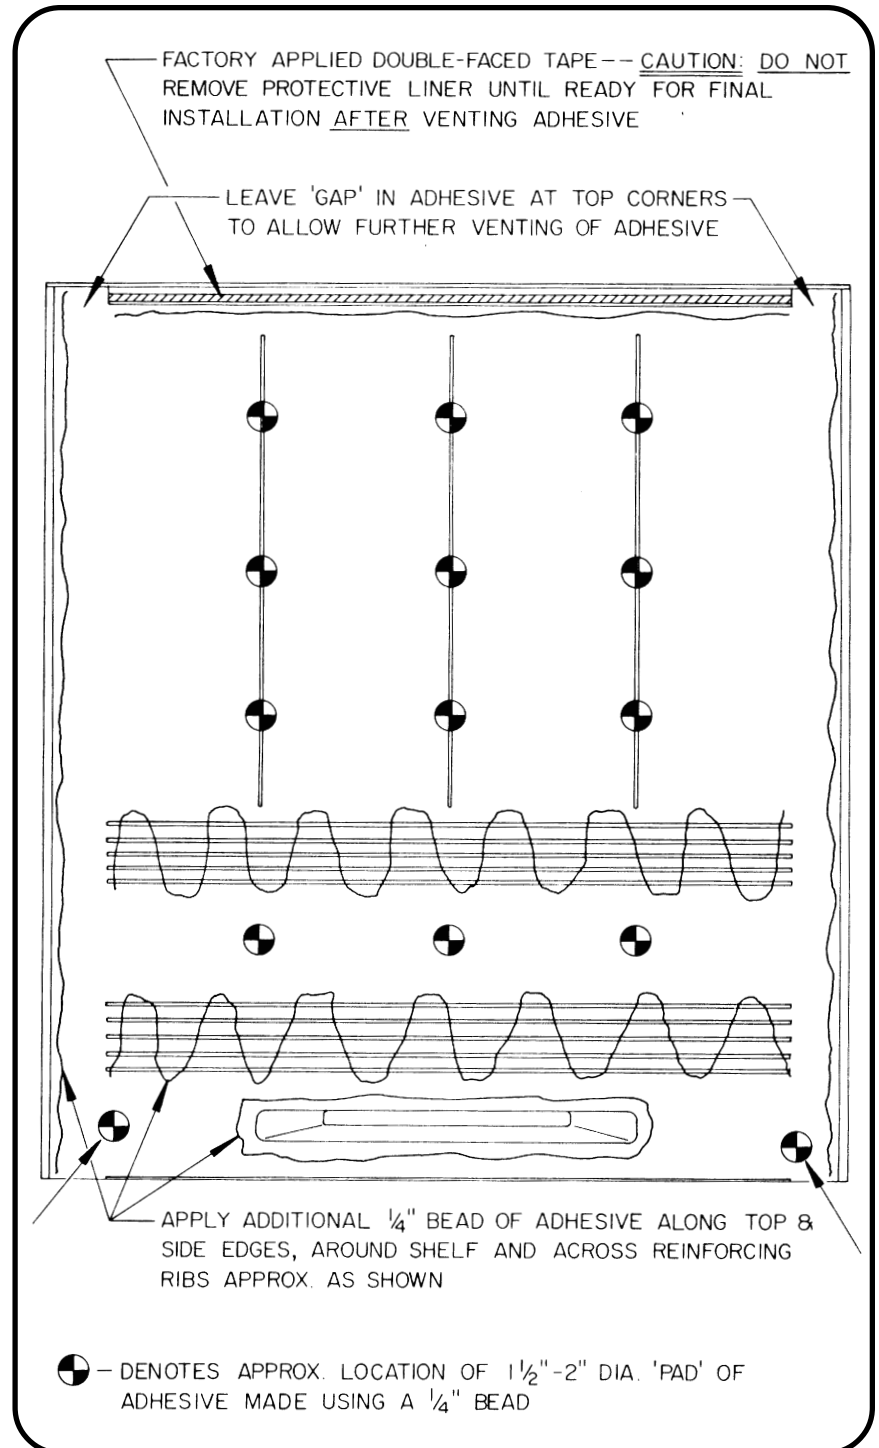

FIG. 5
5. **Center Panel** - Permanent Installation. Apply a 1/4" dia. bead of adhesive to the back side of the Center Panel using the pattern shown in FIG. 5 as a guide. Follow "ADHESIVE NOTE / VENTING METHOD". Remove protective liner from factory applied tape and permanently reposition panel to guide lines. Clean any excess adhesive and grease pencil line immediately with mineral spirits, then wash area with a soap and water solution to neutralize solvent.